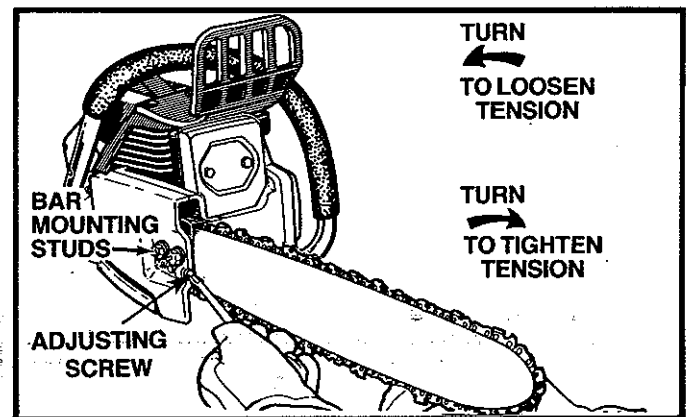

Figure 12
1. Hold the tip of the Guide Bar up and turn the Adjusting Screw just until the chain does not sag beneath the Guide Bar. Figure 12.